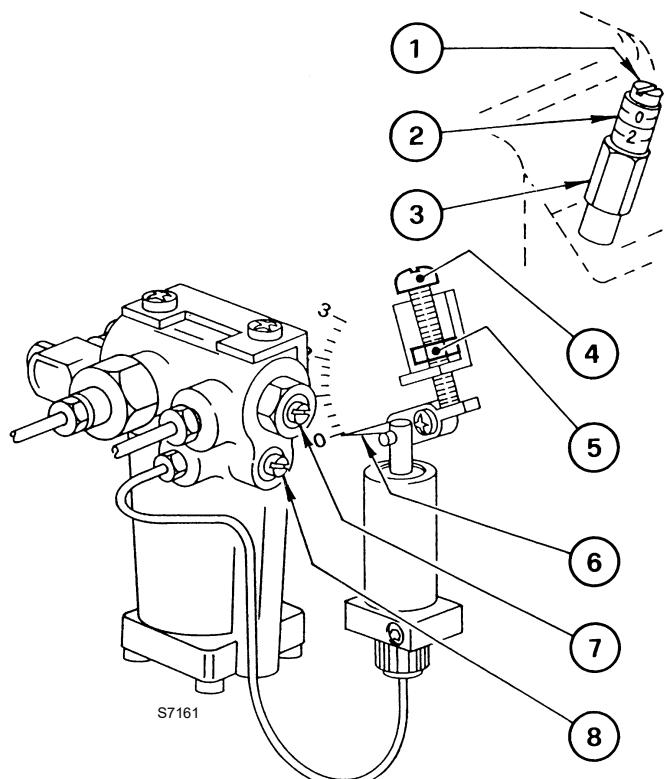
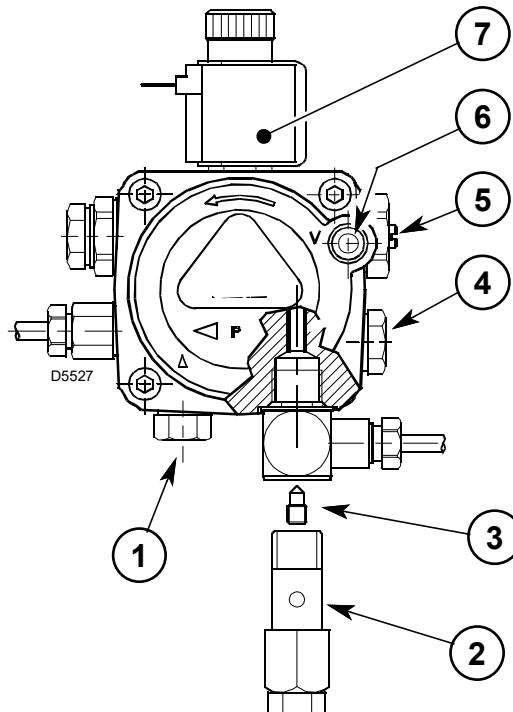

Fig. 12
Fig. 15
Unscrew the screw 8)(Fig. 12) by about 1 turn, in this way the burner remains permanently with the low flame. Loosen the nut 5)(Fig. 12), adjust the screw 4)(Fig. 12), and bring the indicator 6)(Fig. 12) to the required position. Then lock the nut 5)(Fig. 12) and tighten the screw 8)(Fig. 12).
It is set in the factory at 9 bar. The pressure gauge for checking pressure should be fitted in place of the plug 4)(Fig. 15). If necessary recalibrate the pressure, or if you prefer change it, just turn the screw 7)(Fig. 12), always after first unscrewing the screw 8)(Fig. 12).
Loosen the nut 3)(Fig. 12), turn the screw 1)(Fig. 12) until the indicator 2)(Fig. 12) is at the required position. Then lock the nut 3)(Fig. 12).
It leaves the factory set at 12 bar. The pressure gauge for checking pressure should be fitted in place of the plug 4)(Fig. 15).
If necessary recalibrate the pressure, or if you prefer change it, just turn the screw 5)(Fig. 15). When the burner stops, the air damper automatically closes, **up to a max. flue depression of 0.5 mbar**.
The suction line plug 1)(Fig. 15) is made of plastic. Once removed, it must not be used again.
The pump has a delivery pressure regulation device 4)(Fig. 15). Pressure increases if turned in a clockwise direction, and decreases if turned in the other direction.
- If necessary, recalibrate the pressure using the screw 5)(Fig. 15).
In order to obtain one pipe working it is necessary to unscrew the return line plug 2)(Fig. 15), remove the by-pass screw 3)(Fig. 15) and then screw the plug 2)(Fig. 15) in again at a tightening torque of 0.5 Nm.
In the system of Fig. 16 just loosen the connection of the vacuumometer 5) (Fig. 15) and wait for the fuel to come out.